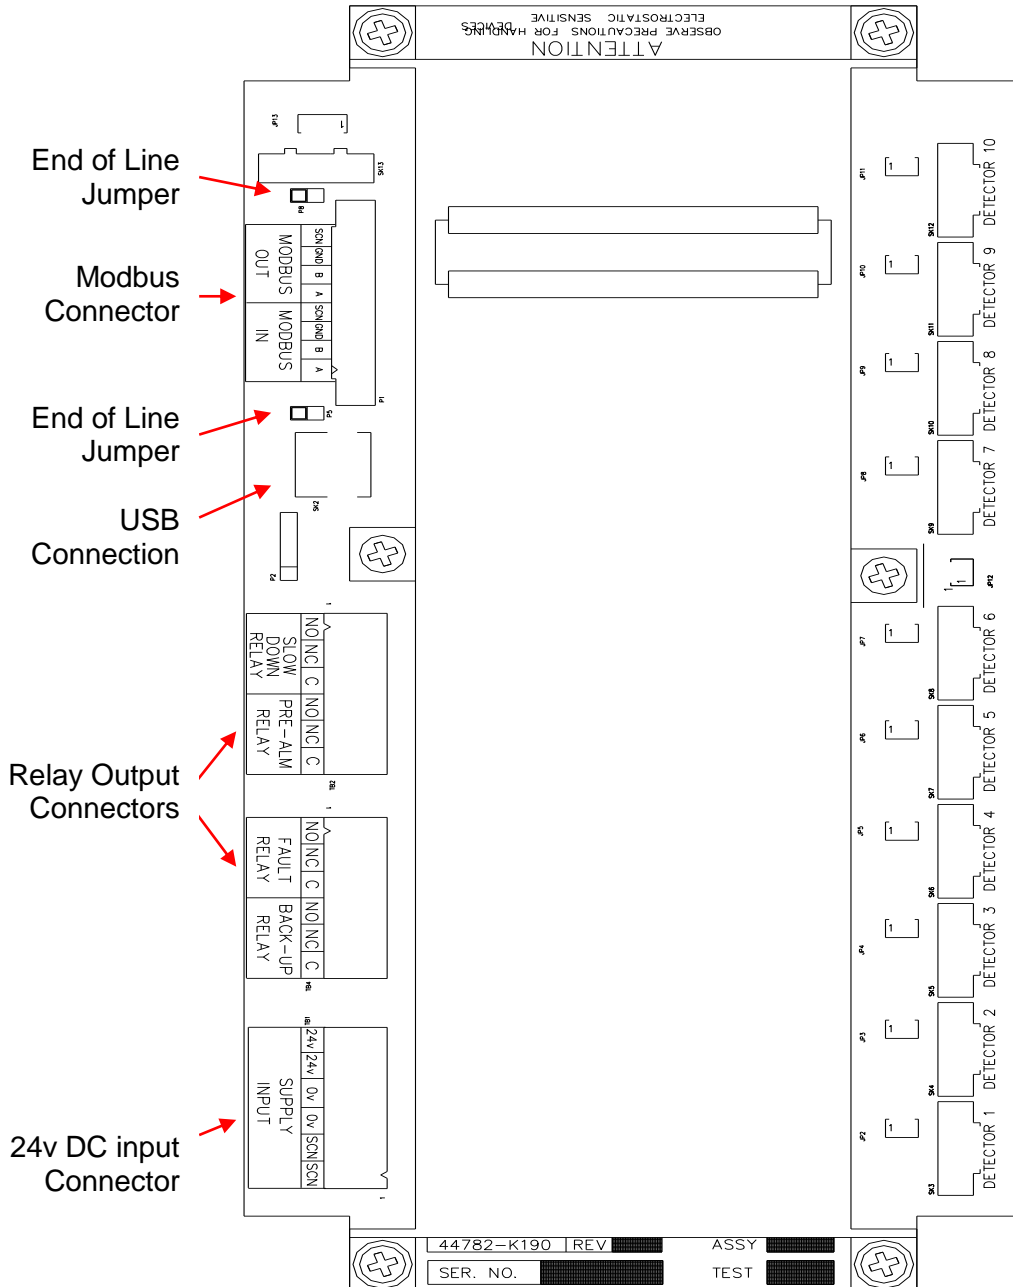

Figure 18 Control Unit PCB
Refer Figure 18 for connector location.
Refer Figure 18 for wiring drawing.
Refer Figure 18 for connection location.
- 2.8.2.1 If more than one Control Unit is installed, please ensure the End of Line (EOL) jumpers are removed from all Control Units (refer Figure 18) **except** for the highest Modbus addressed Control Unit.